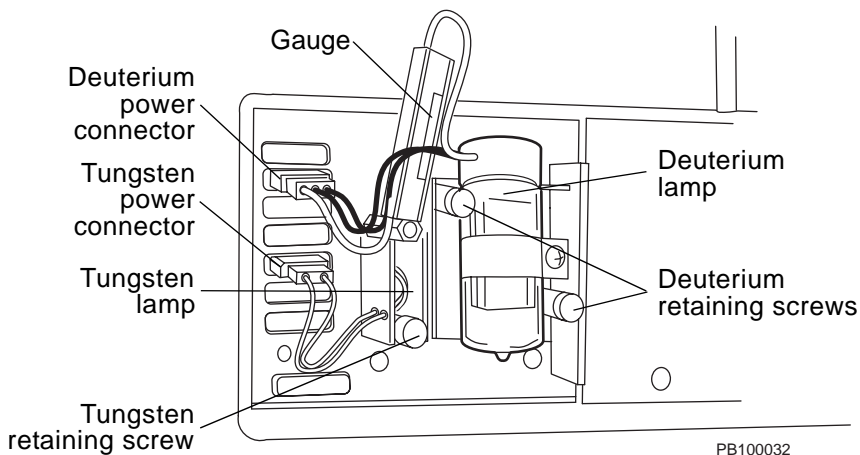

Figure 9-2 UV/Vis Detector Compartment
NOTE: To determine hours of use, check the gauge in the UV/Vis detector compartment (Figure 9-2).
The tungsten and deuterium lamps are exposed (Figure 9-2).
- Unscrew the retaining screw at the base of the lamp (see Figure 9-2).
- Unscrew the two retaining screws (see Figure 9-2).
1. Position the lamp mounting bracket on the pins at the left of the lamp compartment. See Figure 9-2 for tungsten lamp position.
1. Position the lamp mounting bracket on the pin at the right of the lamp compartment. See Figure 9-2 for deuterium lamp position.